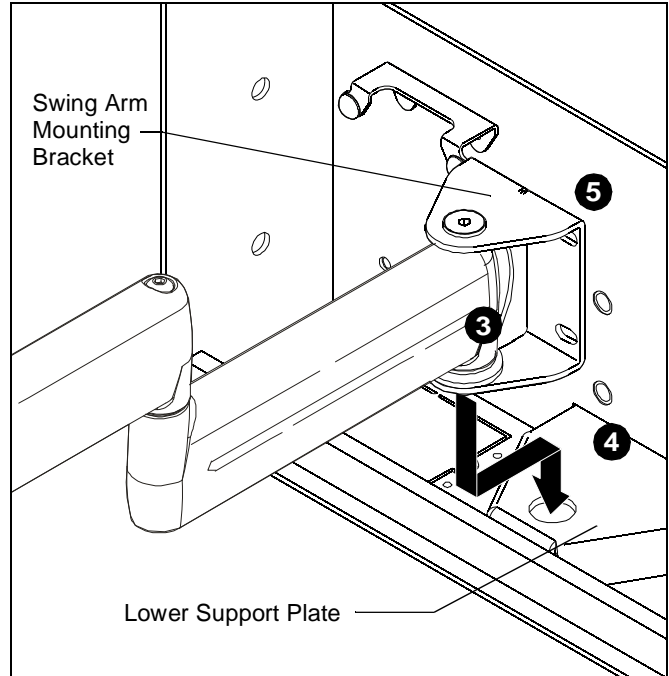

Figure 2
3. Align bottom of swing arm pivot pin with hole in lower support plate. (See Figure 2)
4. Lower swing arm until pivot pin rests in hole in lower support plate. (See Figure 2)
5. Align four mounting holes in swing arm mounting bracket with four mounting holes in FAC501. (See Figure 2)